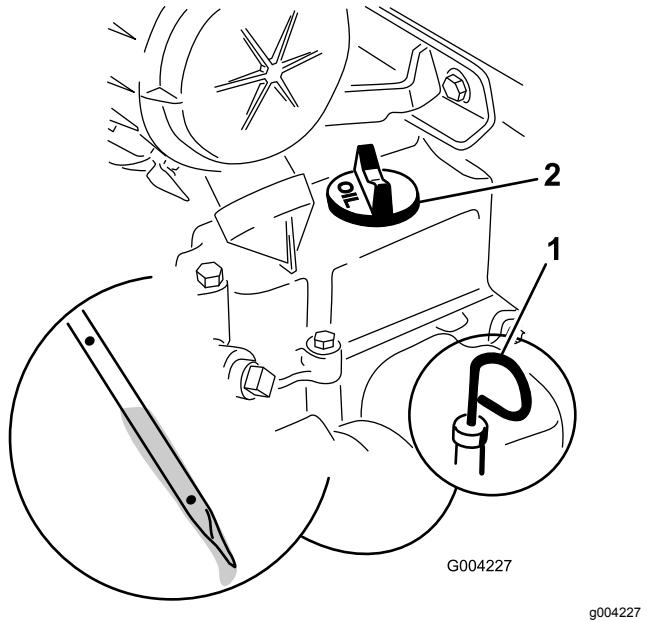

Figure 32
4. Clean the area around the oil dipstick (Figure 32).
- 5. Pull out the dipstick and wipe the metal end clean (Figure 32).
- 6. Slide the dipstick fully into the dipstick tube (Figure 32).
- 8. If the oil level is low (below the bottom hole), clean around the oil-fill cap and remove the cap (Figure 32).
6. Remove the fill cap (Figure 32) and slowly pour approximately 80% of the specified amount of oil in through the valve cover.
9. Remove the fill cap (Figure 32) and slowly pour approximately 80% of the specified amount of oil in through the valve cover.